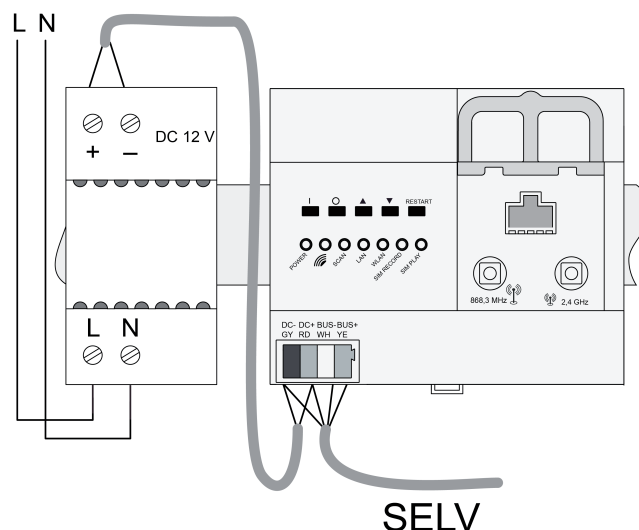

Figure 3: Connection diagram
- Connect the device according to the connection diagram (Figure 3).